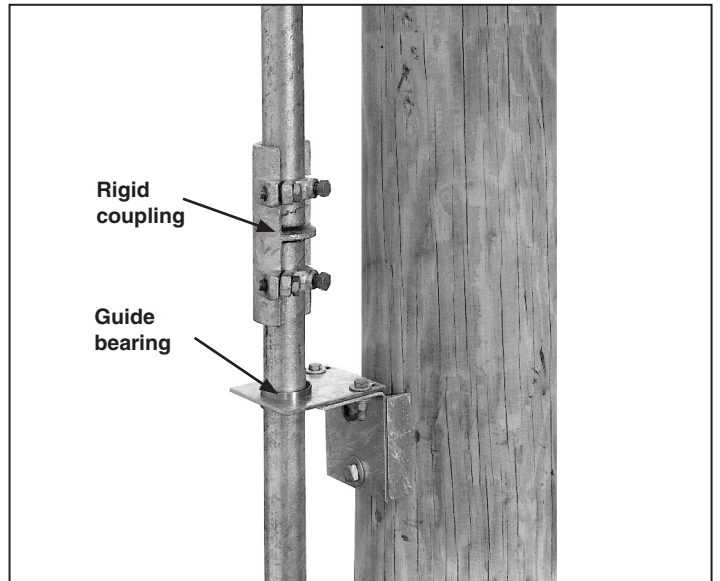

Figure 8. Install the guide bearing for the additional pipe section.
STEP 11. Install a guide-bearing assembly with each additional vertical operating-pipe section positioned in accordance with the dimension shown on the erection drawing. See Figure 8. Thrust bearings are only necessary on the uppermost guide bearing.